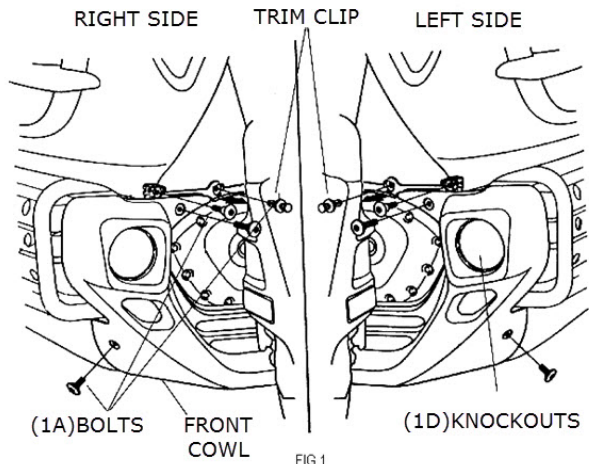

FIG 1
3. USING 5MM ALLEN WRENCH REMOVE THE SIX BOLTS (1A) FROM THE FRONT COWL (1B). SEE TO FIGURE 1.
4. REMOVE THE TWO TRIM CLIPS (1C) AND REMOVE THE FRONT COWL (1B). SEE TO FIGURE 1.